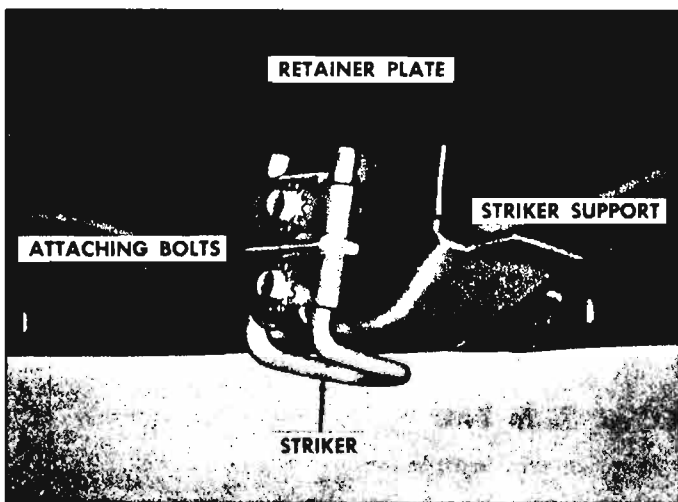

Fig. 10-19—Front Compartment Lid Lock Striker
2. Remove striker retainer plate attaching bolts and remove retainer plate and striker (fig. 10-19).
1. To adjust striker up or down, loosen retainer plate attaching bolts while holding retainer plate in position. Adjust striker up or down as required, then tighten bolts (fig. 10-19).
2. To adjust striker right or left, loosen retainer plate attaching bolts while holding retainer and striker in position. Then slide striker and retainer plate right or left as required and tighten bolts (fig. 10-19).